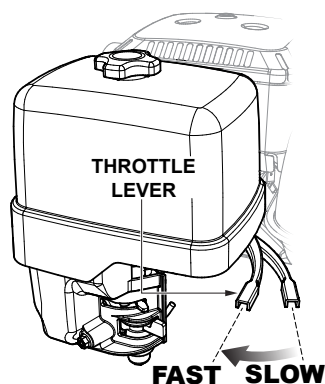

Figure 13. Throttle Lever (1/3 Start Position)
2. Move the throttle lever (Figure 13) away from the **SLOW** position, about 1/3 of the way toward the **FAST** position.